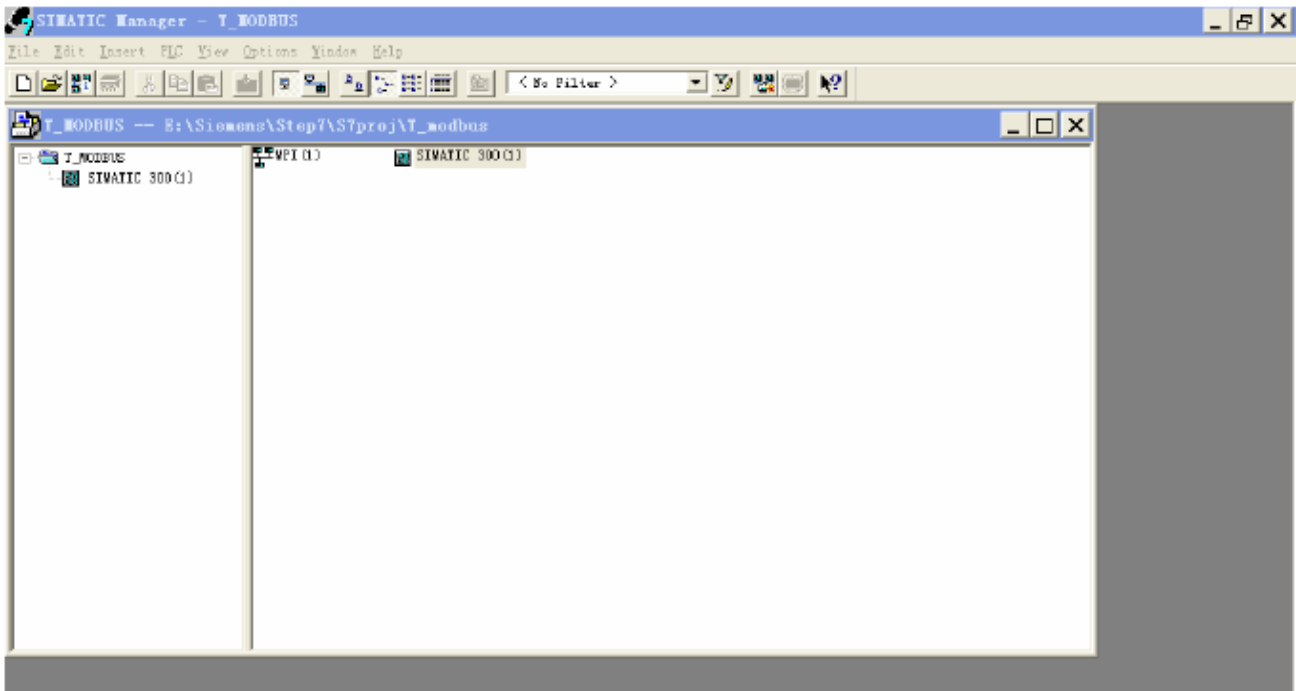

Figure 3
3. Insert->Station->SIMATIC 300 Station; Figure3: